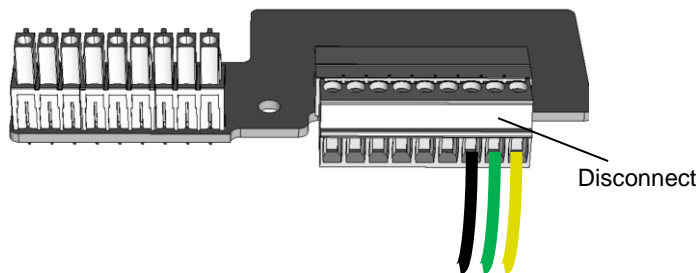

Figure 2: 9-Pin Connector for a New Inverter Installation
- For a new RS485 connection installation, disconnect the 9-pin connector from the surge protection board, and connect the RS485 wires to the G, A, and B terminals of the 9-pin connector, as shown in Figure 2.